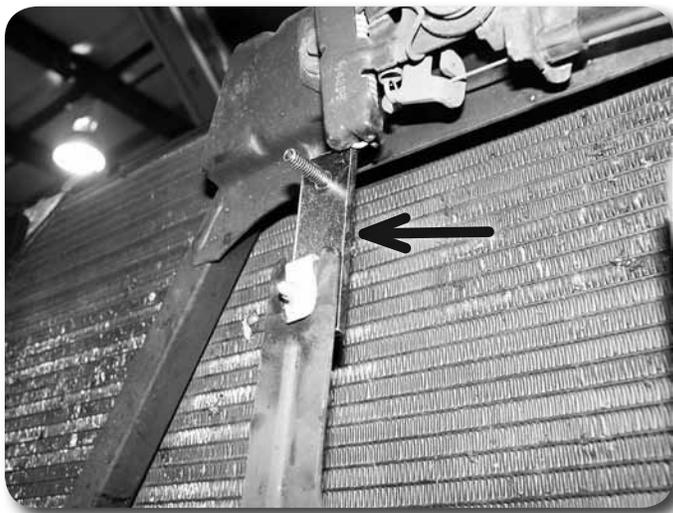

Figure 23
44. Attach the provided 2" relocation brackets to the cooler using the repositioned nut clips and factory bolts. The threaded stud on the relocation bracket should be facing out away from the radiator **Figure 23**. By sure the relocation brackets are vertical and torque the factory bolts to 15 ft-lbs.